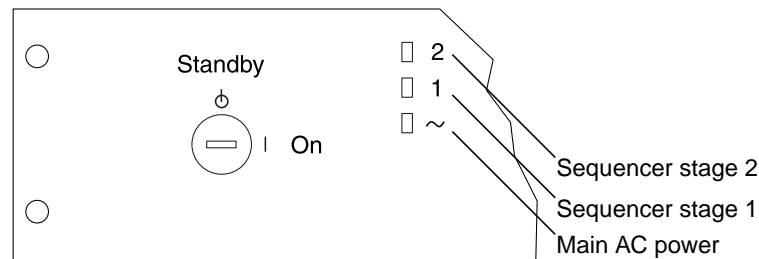

FIGURE 4-3 Front Sequencer Status Lights
6. Turn the key switch at the front of the storage system to the On position (FIGURE 4-3).